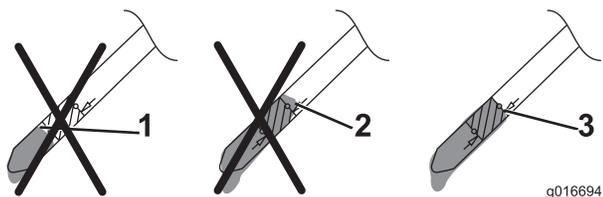

Figure 32
12. Read the oil level on the dipstick (Figure 32).
- If the oil level is too low, **slowly** pour a small amount of oil into the oil-fill tube, wait 3 minutes, and repeat steps 10 through 12 until the oil level is correct as shown in Figure 32.